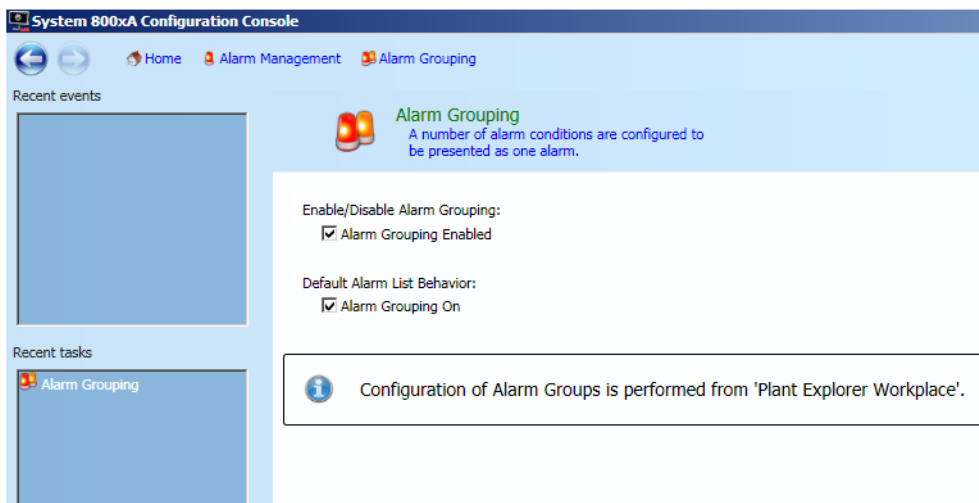

Figure 50. Enabling Alarm Grouping
1. Select **Start > All Programs > ABB Industrial IT 800xA > System > System Configuration Console > Alarm Management > Alarm Grouping**, refer to Figure 50.